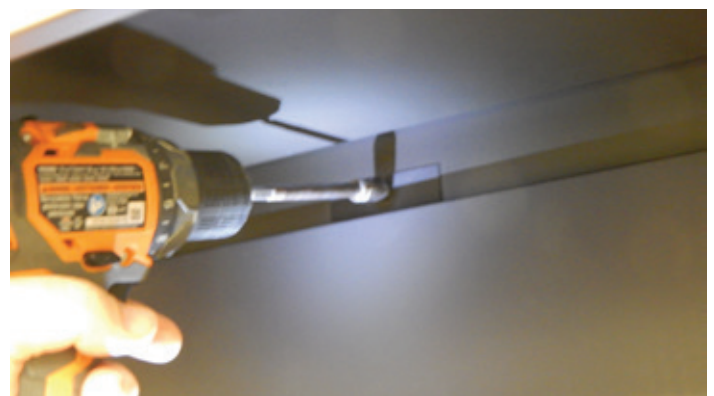

Figure 3
6. Remove the Rear Liner Panel. See Figure 3.